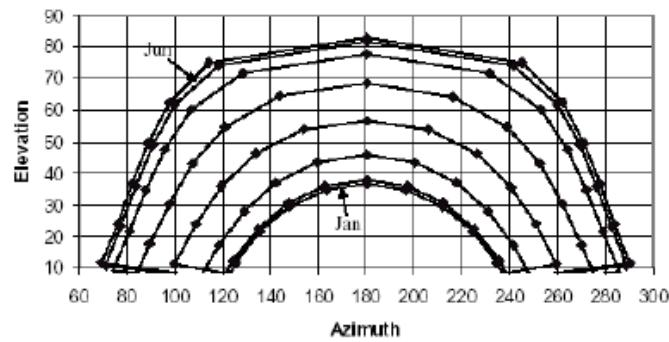

Figure 7. Sun Position of Austin (altitude is in degrees above the horizon and azimuth is in degrees from true north)
- Ideally, a solar panel should be perpendicular to the incident rays of the sun and track it like a sunflower to maximize energy capture. Sun positions for Austin are shown in Figure 7.